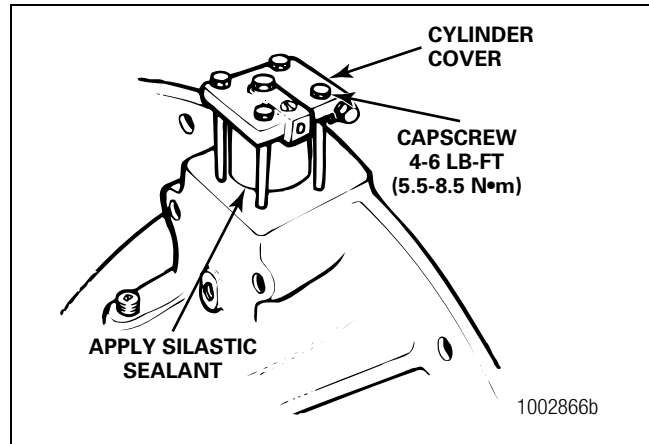

Figure 6.31
11. Install the copper gasket, if used, into its bore on the inside of the cylinder cover. Place the cover into position over the cylinder so that the air intake port will point up when the carrier is installed into the housing. Install the cover with the four attaching capscrews and washers. Tighten the capscrews to 4-6 lb-ft (5.5-8.5 N•m). Figure 6.31.